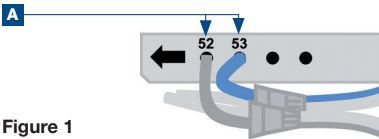

Figure 1
- 05 Insert the cable bridge in cable set connector plug XE2 (Figure 1):